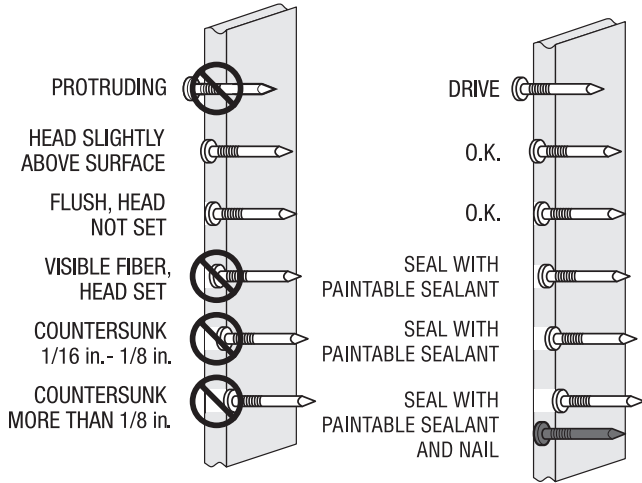

Figure 1
- Nails must penetrate wood framing 1-1/2 in. (see Fig. 1).
- Avoid countersinking nails or rupturing the surface of the siding. If countersinking occurs, seal nail prior to painting (see Fig. 1).
- Seal all overdriven nails (see Fig. 1).